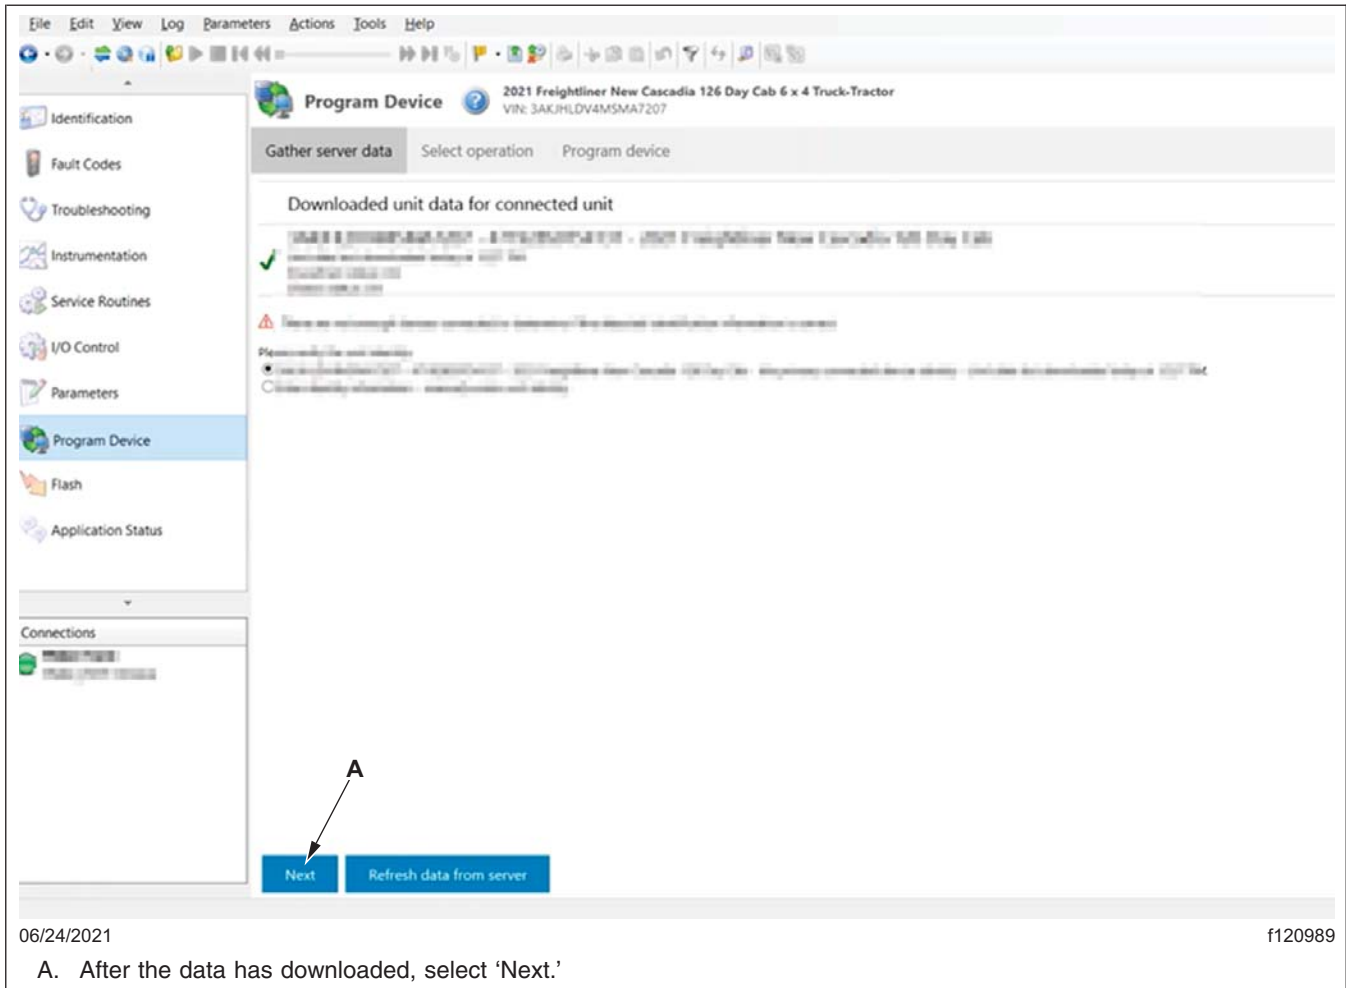

Fig. 8, Data Downloaded from the Server
9. When the data has finished downloading, select 'Next.' See Fig. 8.